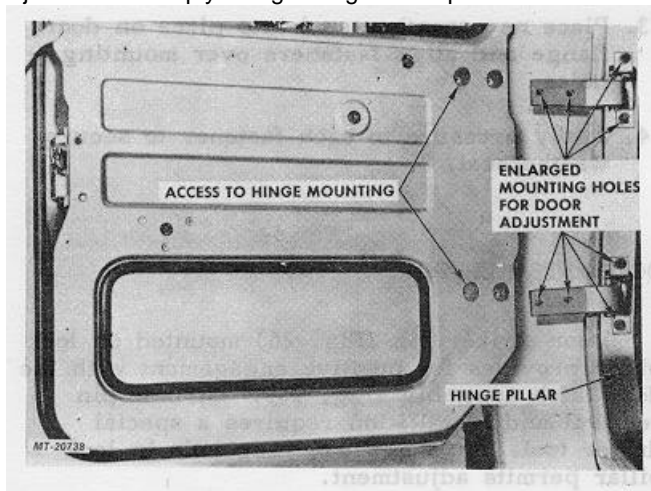

Fig. 27. Location for Door Adjustments at Hinge Pillar
1. Adjustment at Hinge Pillar (Fig. 27)